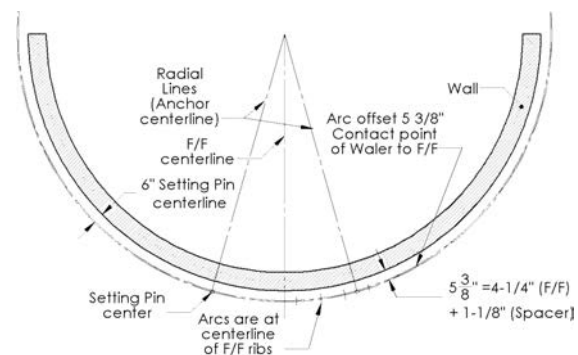

FIG. 67-1
1. First, attach "J" Hook Angles and Waler Tie Back Bars to the gang as required at the location determined in the previous steps (starting with Fig 67-1).